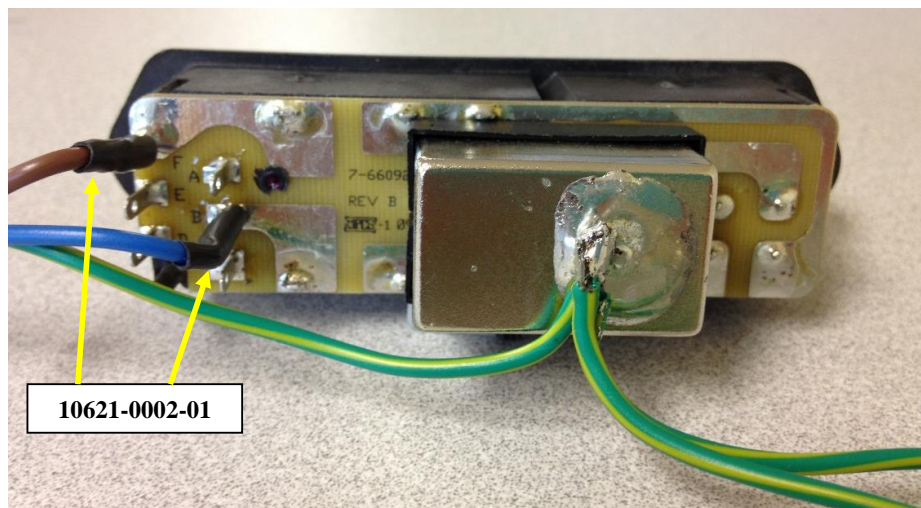

Figure 12
- 8.8. Solder all three Green/Yellow wires to the ground terminal of the Power Entry Module as shown in Figure 12.
- 8.9. Cut a 1" piece of 1/8" Heat Shrink Tubing (10621-0002-01) and place it over the Blue Wire. Solder the Blue Wire to position "B" on the Power Entry Module as shown in Figure 12. Seal the Heat Shrink.
- 8.10. Cut a 1" piece of 1/8" Heat Shrink Tubing (10621-0002-01) and place it over the Brown Wire. Solder the Brown Wire to position "F" on the Power Entry Module as shown in Figure 12. Seal the Heat Shrink.